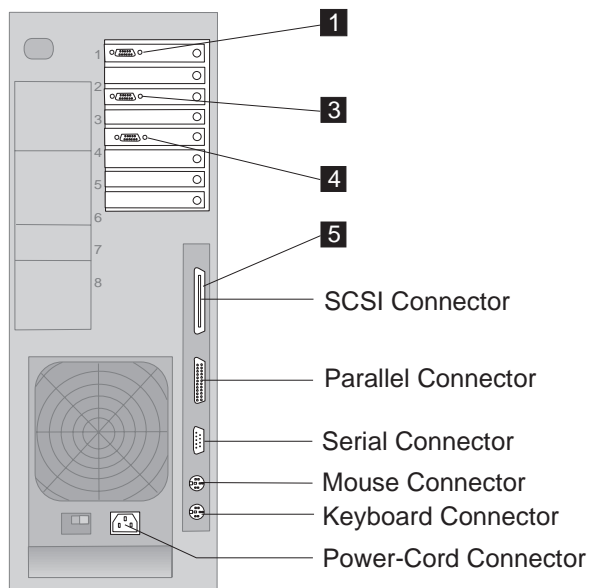

Figure 1-56. Slot Allocation
18. ____ **Plug** the external cables in the following slots (see Figure 1-56):